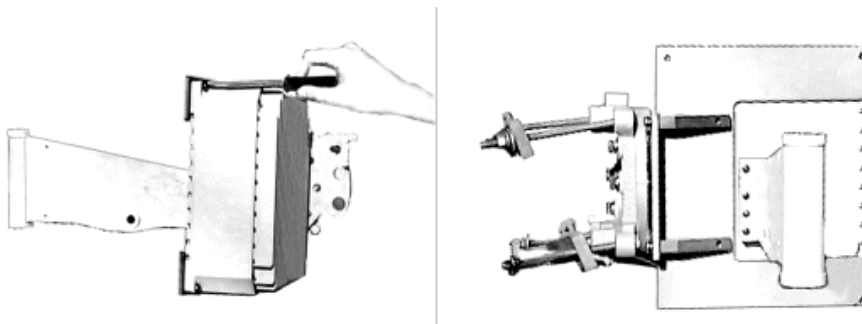

Figure 4-16: Aligning the Four Corner Holes
17.Align the four corner holes of the brass plate with the four corner holes of the RFU as shown in Figure 4-16.